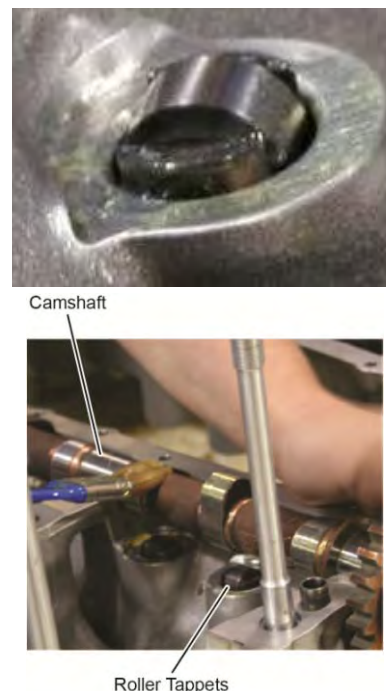

Figure 65
- Roller tappets (Figure 65) and camshaft lobes